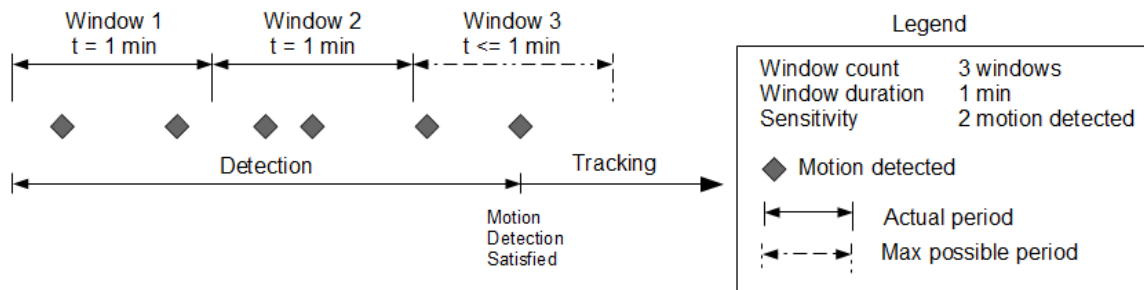

Figure 25: Motion Detection Example
(TTL) pulses from the motion sensor. **Figure 25** illustrates the algorithm with a window count of 3, window duration of one (1) minute, and a sensitivity of two (2) TTL pulses.